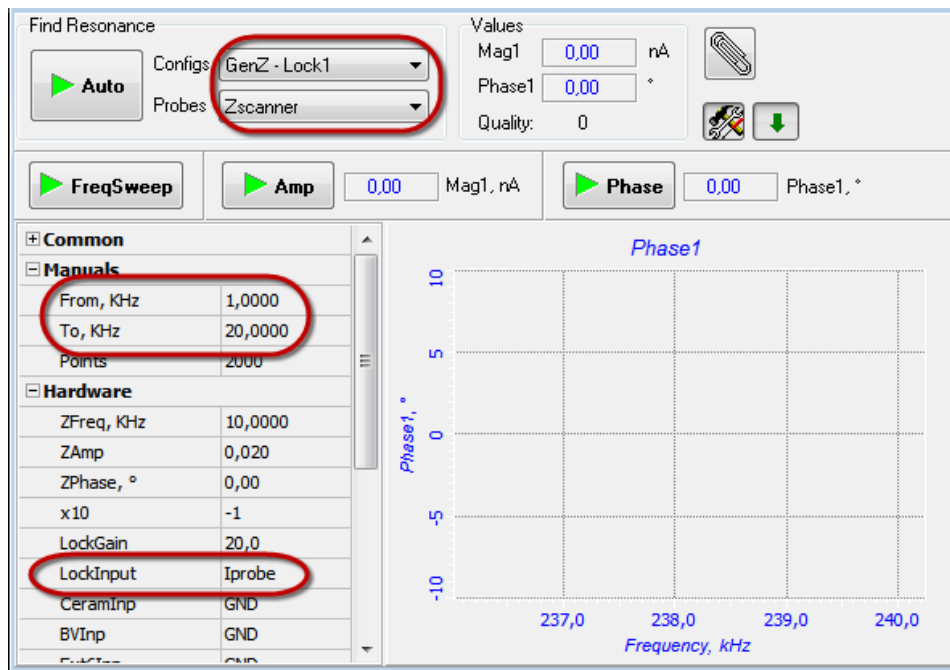

Fig. 10-26
- Verify that the following adjustments are made (see Fig. 10-26):